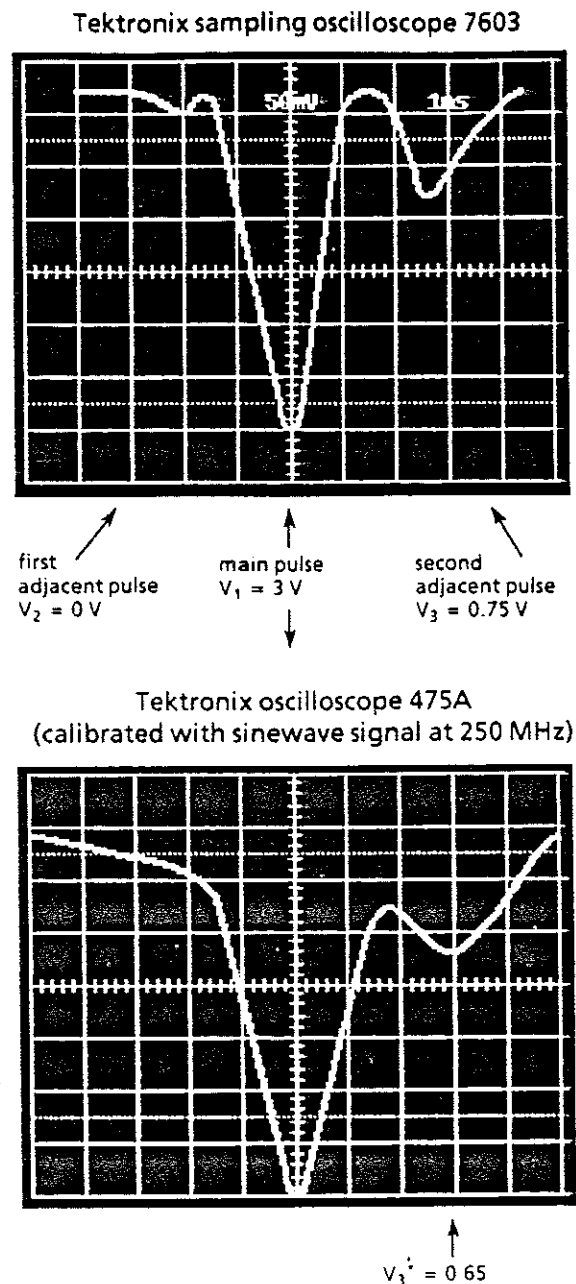

Fig. 5-5 Typical oscillograms of the output signal at X101 (RFO REF) after adjusting the pulse blanking divider
- Adjust V_1 (amplitude of main pulse, see Fig. 5-5) for maximum using AMPLITUDE.
- Adjust V_3 (amplitude of second adjacent pulse, see Fig. 5-5) for $V_3/V_1 = 0.25 \pm 0.05$ using DELAY.